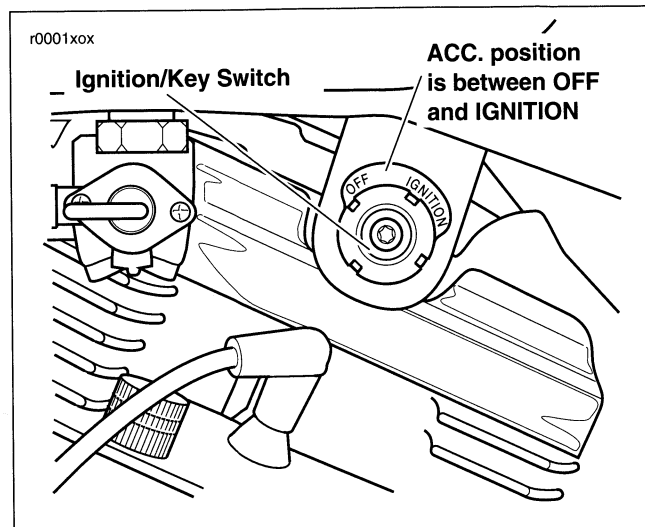

Figure 4. Ignition/Light Key Switch
See Figure 4. The ignition/light key switch controls electrical functions of the motorcycle.
1. See Figure 4. Turn switch to OFF position and remove key before locking bike. If you leave the ignition in the ACC. POSITION, the instrument lights will discharge the battery.